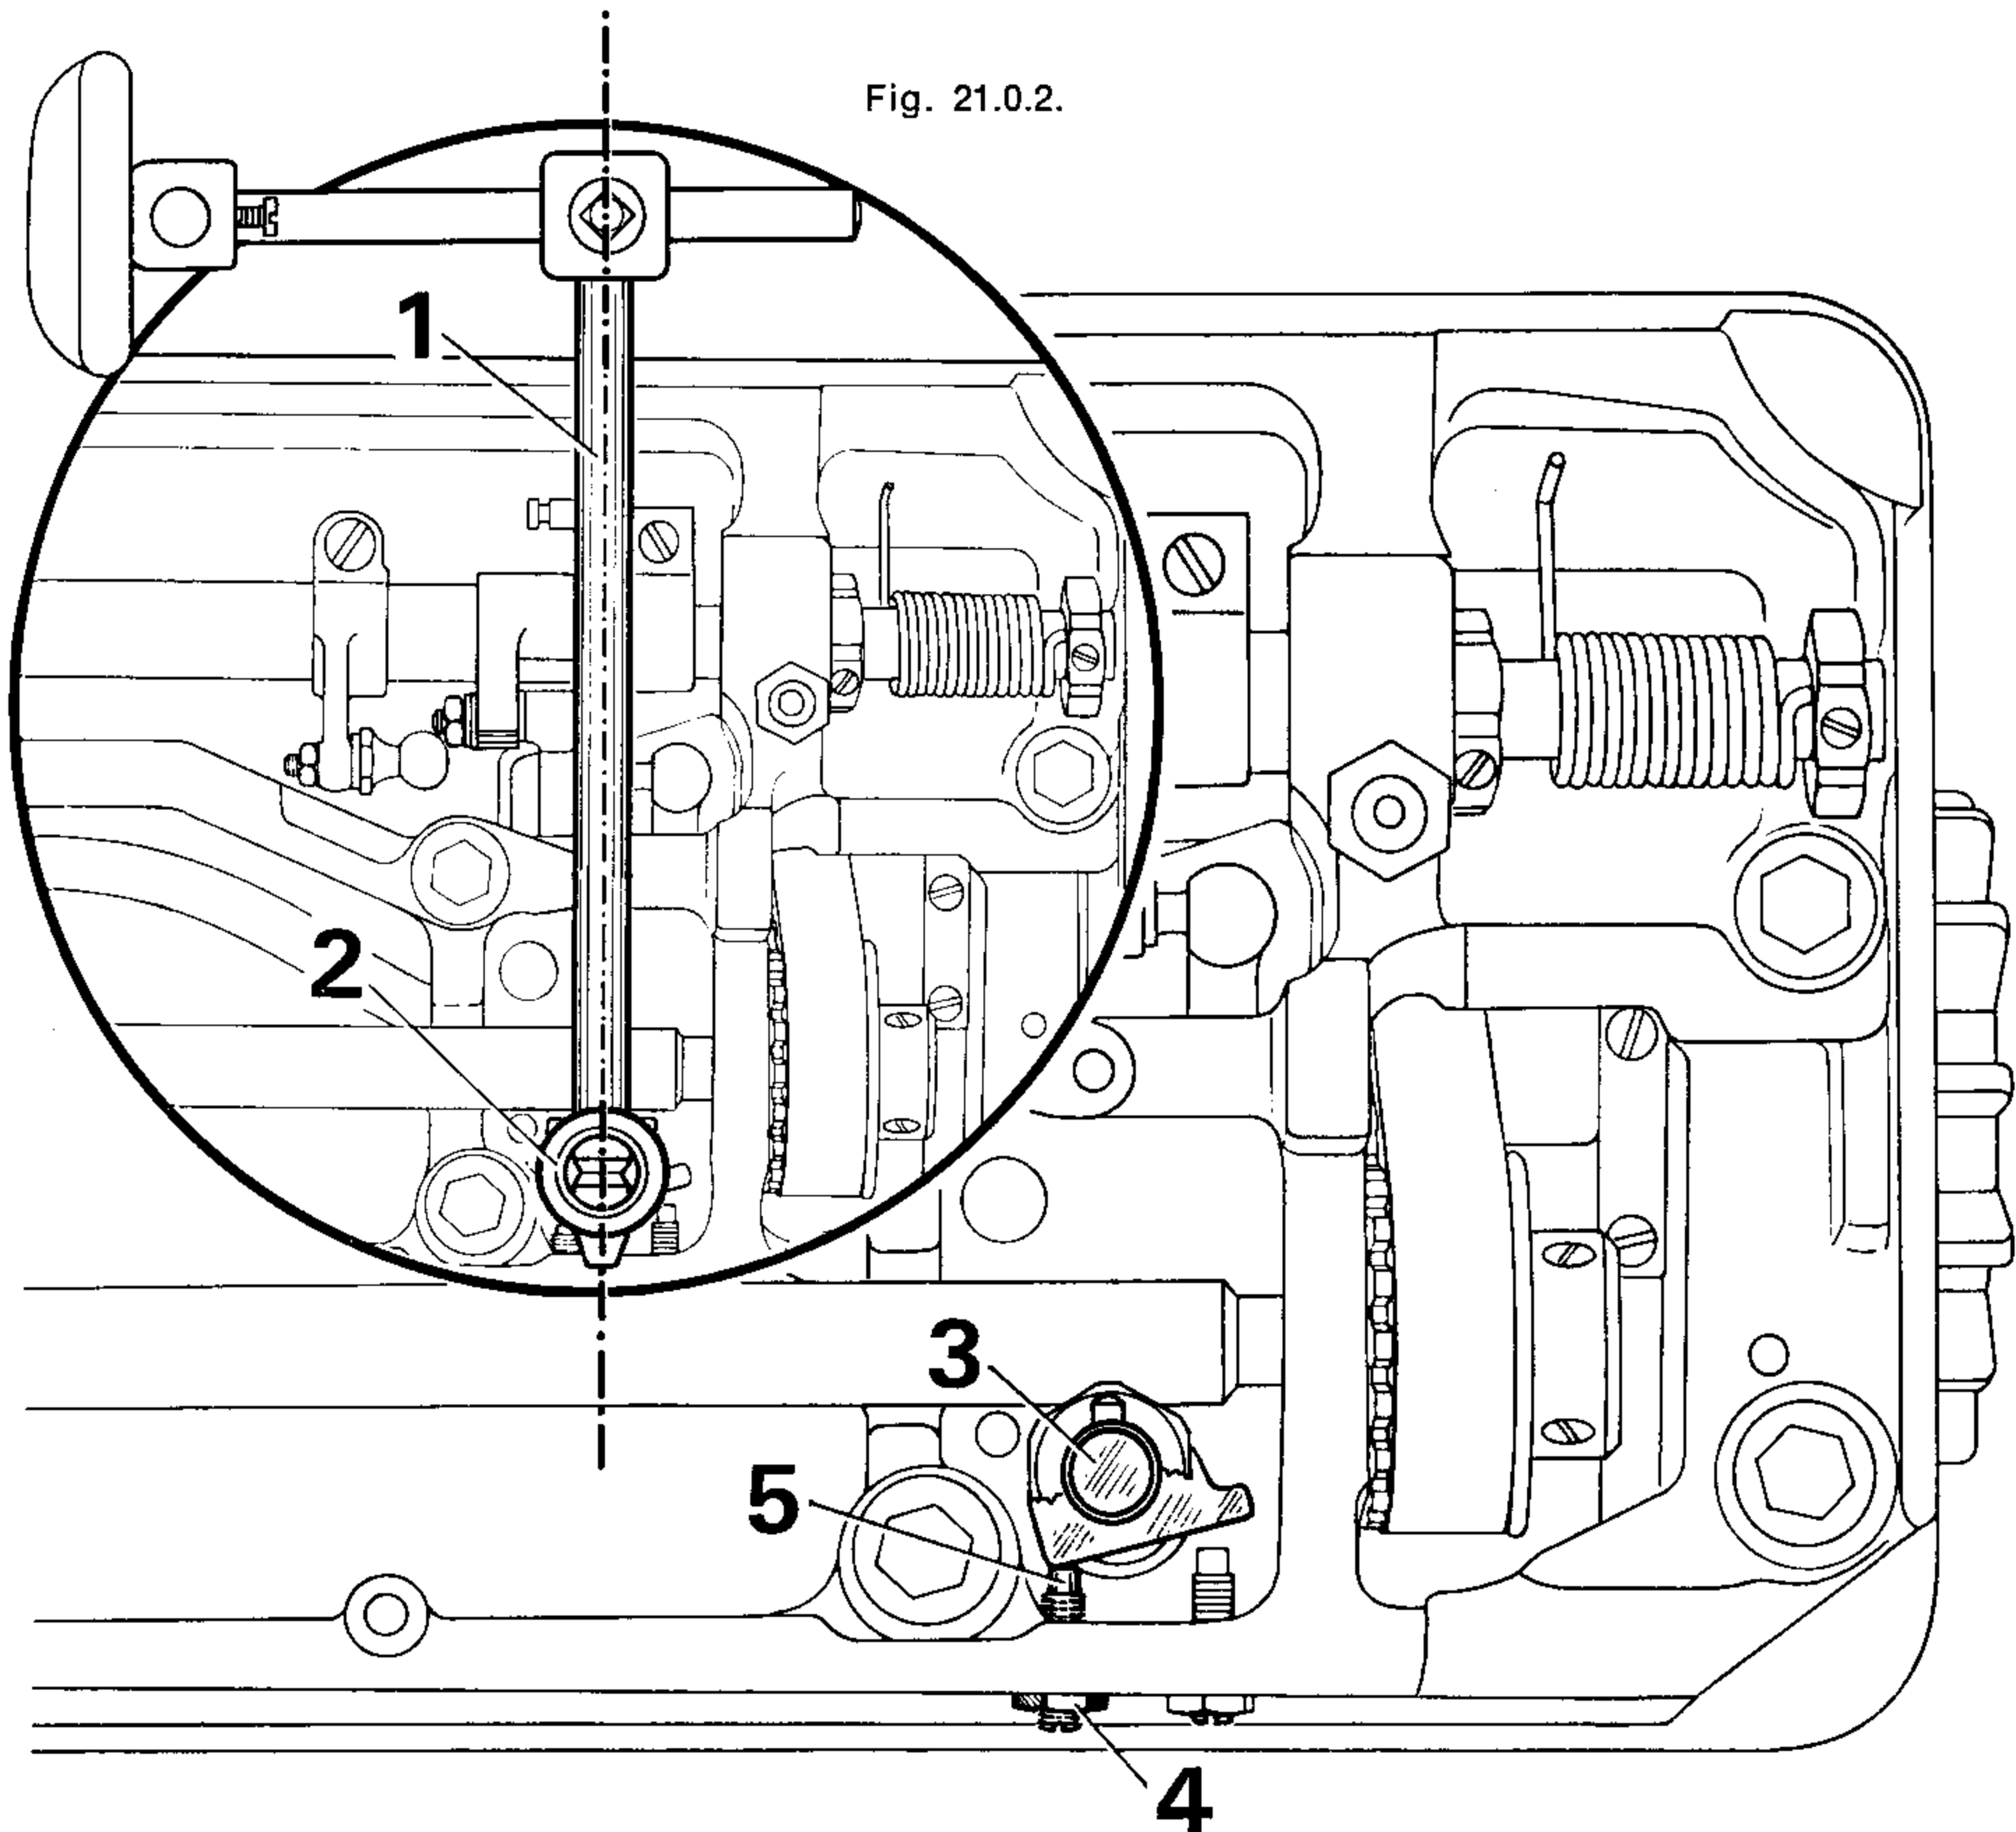

Fig. 21.0.1.
- 21.3. Loosen locknut **4** of stop screw **5** (Fig. 21.0.1.).